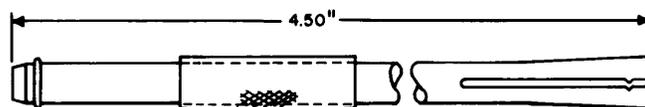

Fig. 15—KS-20545, L1, Holder Tool
2.13 KS-20545, L1: The KS-20545, L1, holder tool (Fig. 15) is a molded plastic rod, tapered and slotted at one end to form jaws for retaining a strip of KS-7187 cleaning paper (must be ordered separately). A snap ring on the opposite end of the rod captivates a sliding metal sleeve that operates the opening and closing of the jaws. The KS-20545, L1, holder tool is used in cleaning contacts of wire spring relays and crossbar switches.